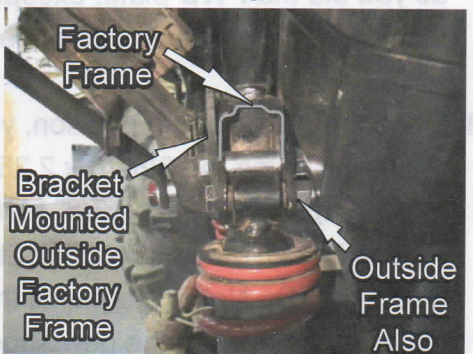

Fig.8
- Locate the (2) Rear Shock Mount Bracket plates (items: "D" & "E"). Then slide them thru from the side you are on all the way thru to the other side as you did on the front. However, you will position them so they both are located on the "outside" of the factory frame NOT like you did on the front. See Fig.8.